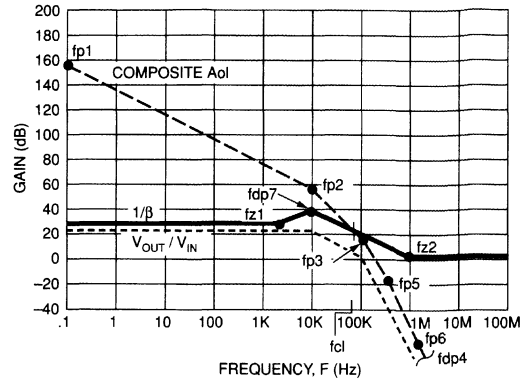

FIGURE 37. COMPOSITE AMPLIFIER MAGNITUDE PLOT FOR STABILITY
STEP 9: Compensate the composite amplifier for stability. With reference to Figure 37 we have repeated only the Composite Aol for clarity. We see that if we leave just a composite gain of 17, 25 dB, we will have a 40 dB per decade rate of closure and instability. If we try to use just Feedback Zero Compensation the $1/\beta$ plot will intersect the composite Aol slope that is 60 dB per decade with a 20 dB per decade slope yielding a resultant 40 dB per decade rate of closure. Our optimum compensation will then use both Noise Gain Compensation as well as Feedback Zero Compensation.
We will use Noise Gain to raise the $1/\beta$ curve to 40 dB and then use the Feedback Zero Compensation to roll the $1/\beta$ plot off to 20 dB per decade slope to intersect the Composite Aol at a resultant rate of closure that is 20 dB per decade. Refer to Figure 37. Notice that the V_{OUT}/V_{IN} relationship is flat until the feedback zero at $fdp7$ (in the V_{OUT}/V_{IN} relationship this is the pole at $f = 1/(2\pi R_{FC} C_{FC})$) begins to roll it off at 20 dB per decade. When the $1/\beta$ intersects the Composite Aol, loop gain has gone to zero and V_{OUT}/V_{IN} follows the composite Aol curve on down.